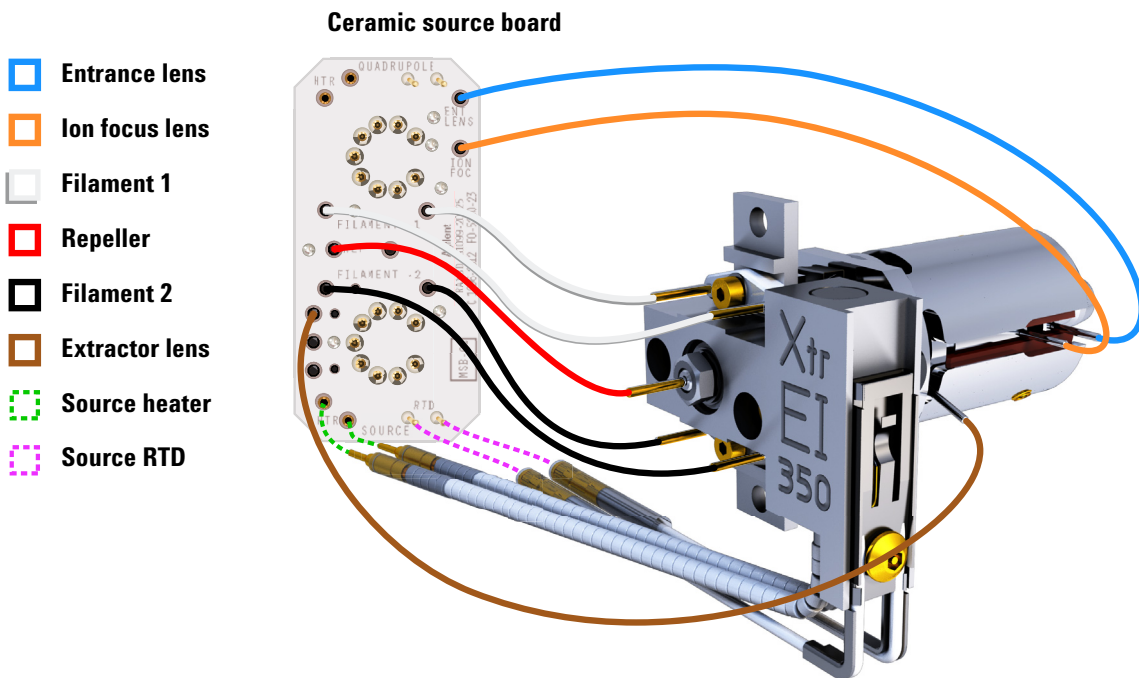

Figure 54 Wiring for the EI XTR Source
- 1 Use tweezers or needle nose pliers to connect/disconnect the ceramic source board wire leads at the source connectors. (See **Figure 54.**)